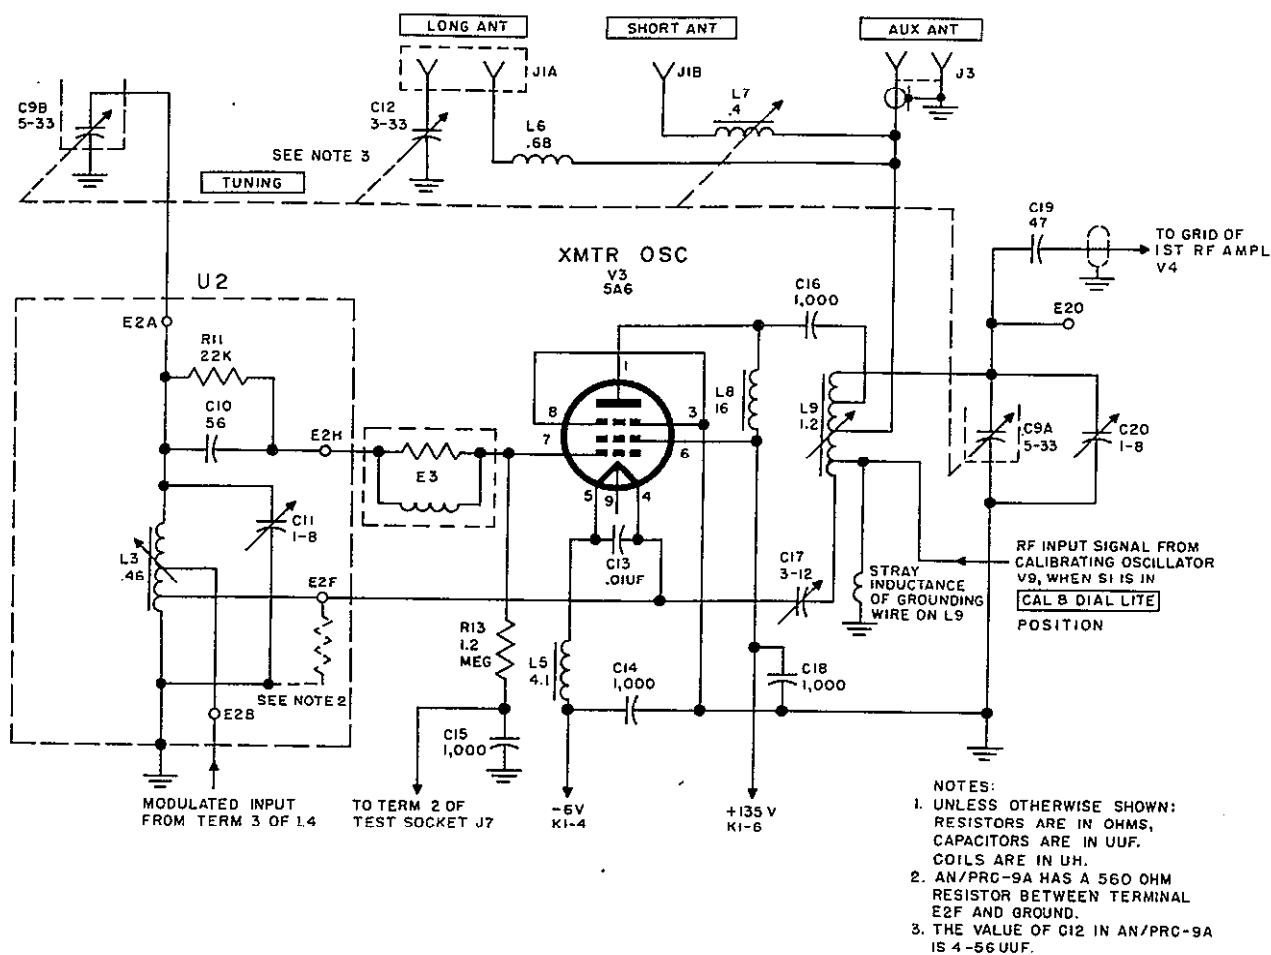

Figure 18. Transmitter oscillator V3, schematic diagram.
22. Transmitter Oscillator V3 (fig. 18)